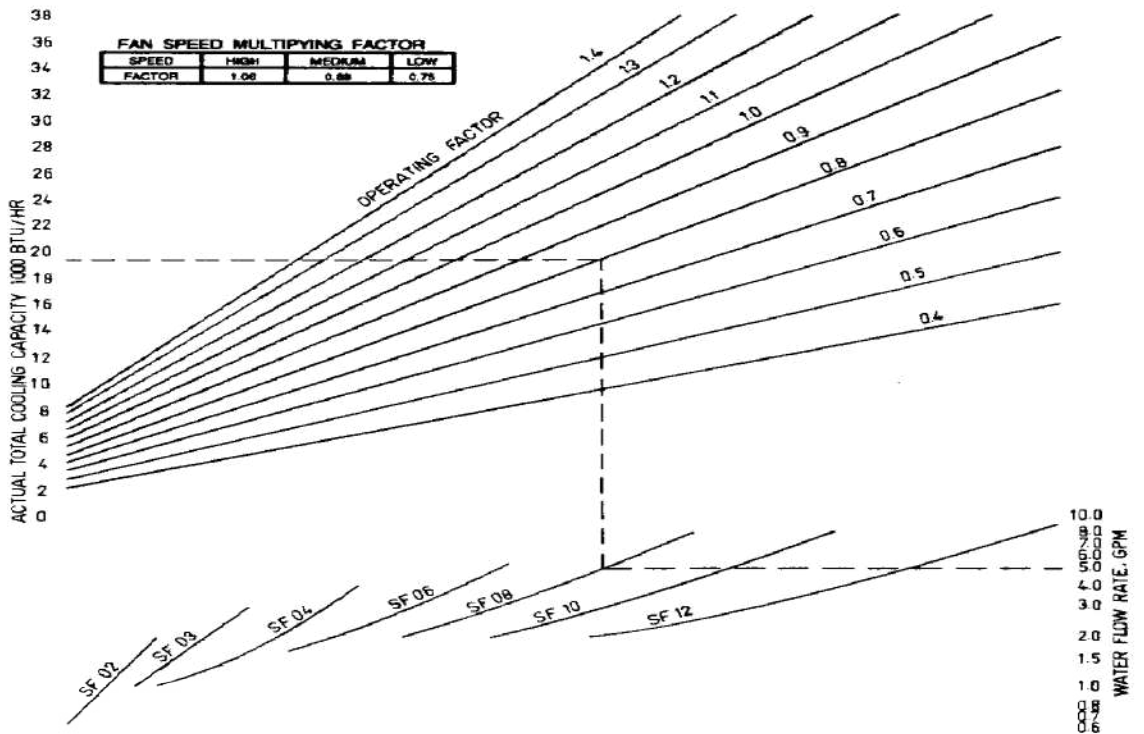

FIGURE 2. WET AIR DEHUMIDIFICATION
FIGURE 2 is used to find the sensible cooling capacity as a function of water flow rate (GPM), the operating factor (OF), unit size, entering air dry bulb temperature and entering water temperature.